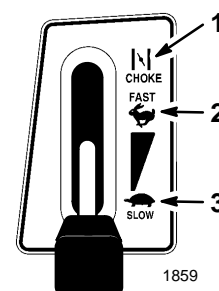

Figure 10
4. Move the throttle lever to “CHOKE” (Fig. 10).
6. After the engine starts, slowly move the throttle lever to “FAST” (Fig. 10). If the engine stalls or hesitates, move the throttle lever back to “CHOKE” for a few seconds. Then move the throttle lever to “FAST.” Repeat this as required.
1. Move the throttle lever to “SLOW” (Fig. 10).